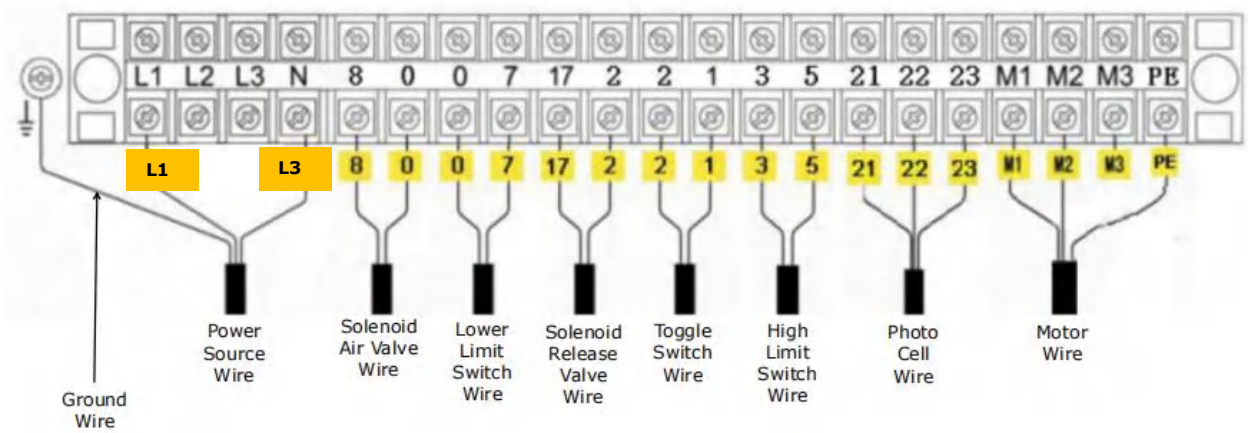

Fig. 17
1.1 Connect the power wire and limit switch wire according to the Wiring diagram. (See Fig. 17)